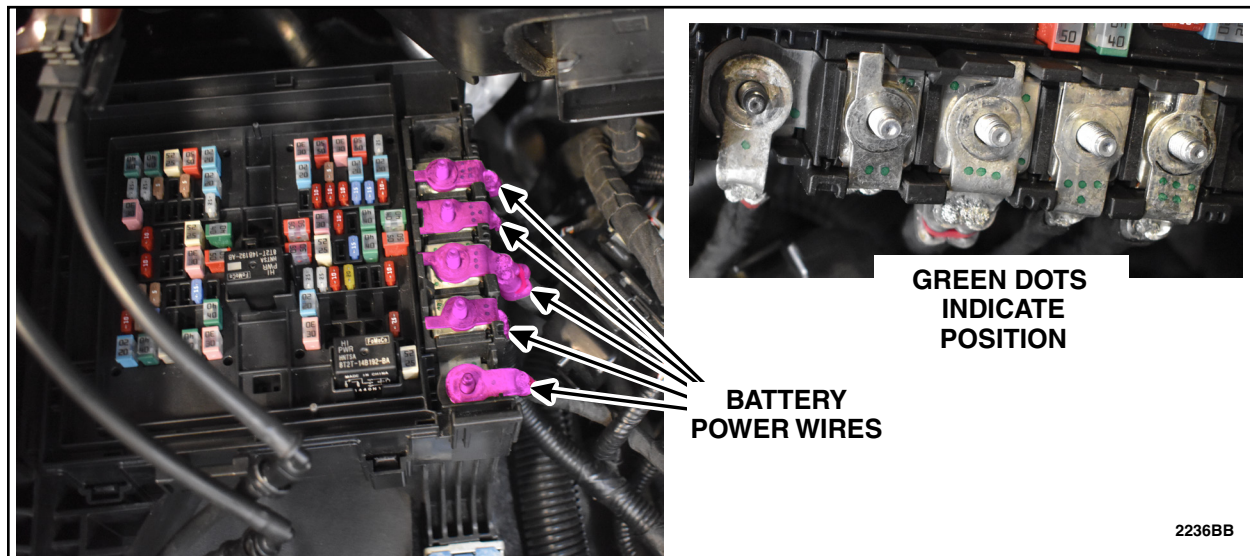

FIGURE 8
9. Remove battery power wires and make sure to document their position. See Figure 8.